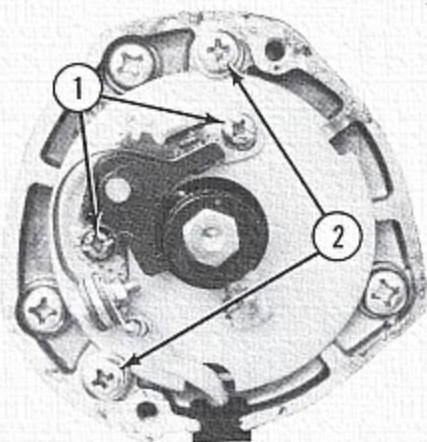

Fig. 58 Contact Point Assembly — Honda Single Cylinder Engine With Adjustable Base Plate
1. Check dwell angle or contact point gap. If adjustment is required, loosen contact point locking screws (1) (Fig. 58). Adjust contact point gap to achieve the dwell angle specified in the shop manual, or adjust gap to 0.3 - 0.4mm (0.012 - 0.016 in.). Tighten locking screws. Recheck dwell angle or gap after locking screws are tightened.
2. Check ignition timing. If adjustment is required, loosen base plate locking screws (2). Rotate base plate to achieve correct ignition timing. Tighten locking screws. Recheck dwell angle or gap, and timing, after locking screws are tightened.